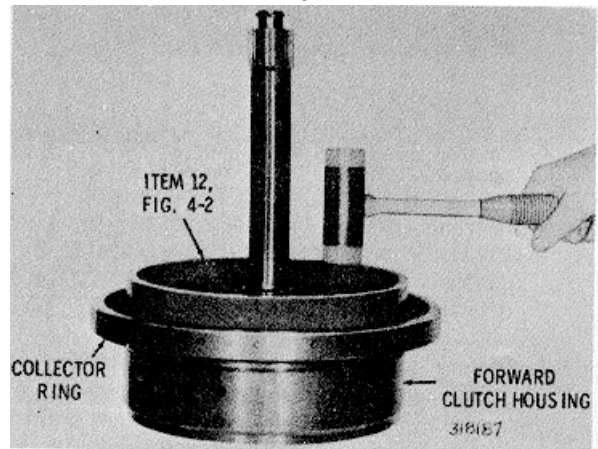

Fig. 6-33 Installing pivot collector ring
(1) If collector ring 6 was removed, replace it with a new ring. Apply Loctite Retaining Compound 40 to the joint and install the ring (fig. 6-33) Use installer 12 (fig. 4-2) to drive the collector ring onto the clutch housing (fig. 6-33) Use light hammer blows, and work around the entire installer circumference.